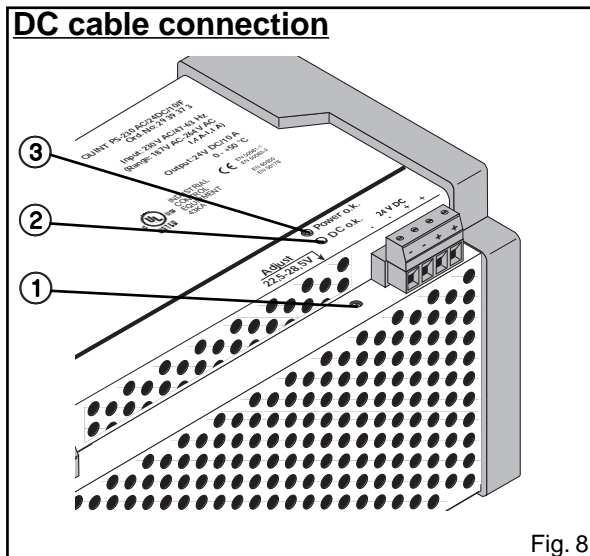

Fig. 8
Power o.k. control lamp signalizes that the device is functioning (page 6, fig. 8 ③).
**Output (fig. 8):** The 24 V DC connection is made using the "+" and "-" screw connections on the POWER COMBICON plug connection (torque 0.5 Nm).